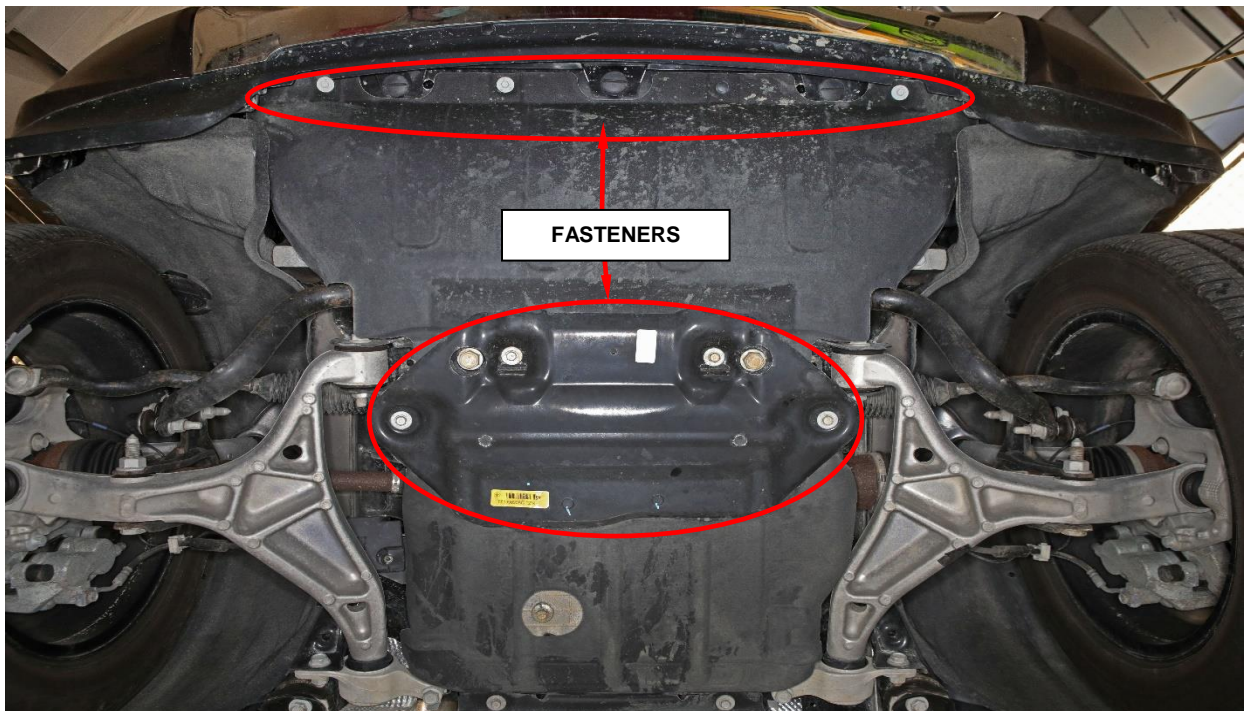

Figure 26 – Skid Plate
4. **If equipped:** remove the front skid plate (Figure 26).